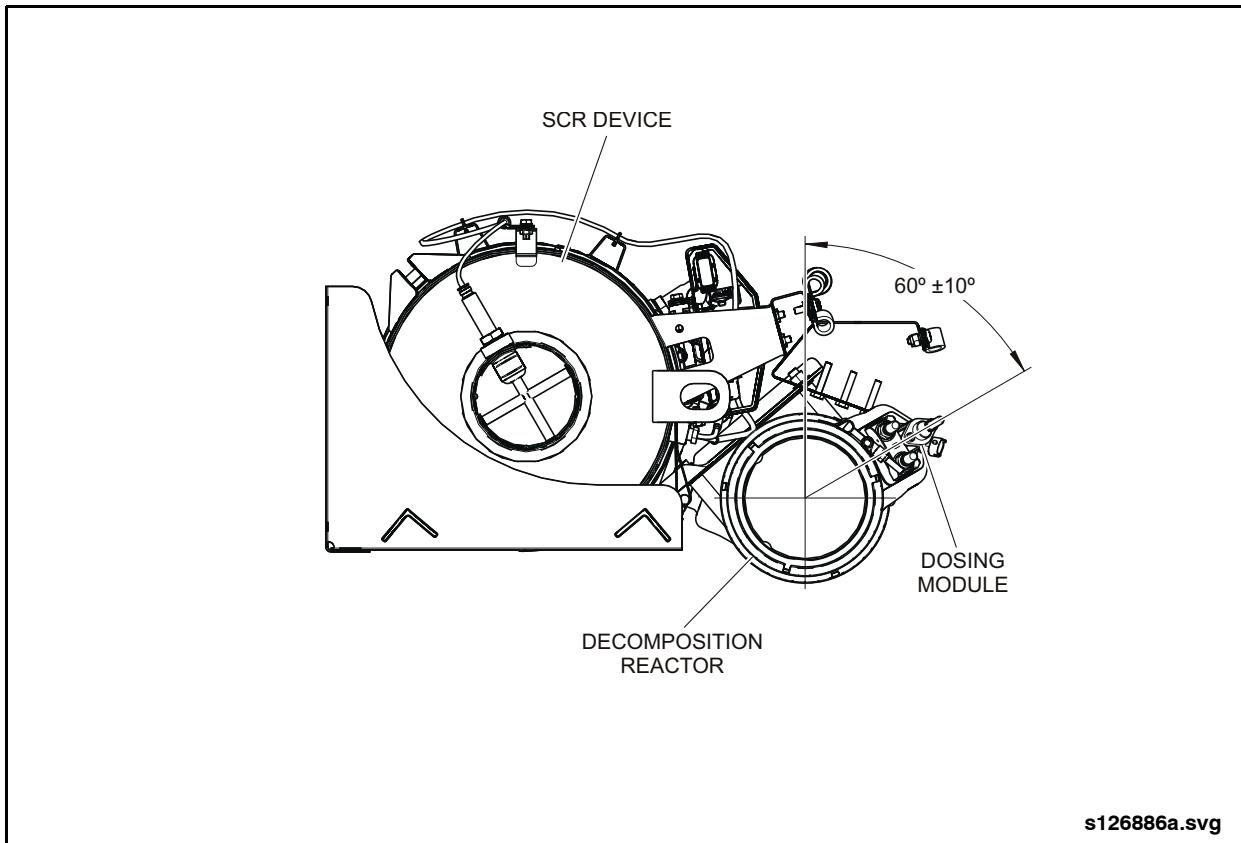

Fig. 4-20: Decomposition Reactor Alignment
3. Install the decomposition reactor and ensure the dosing module is rotated and aligned $60 \pm 10^\circ$ from the vertical. See "Fig. 4-20: Decomposition Reactor Alignment" on page 34.